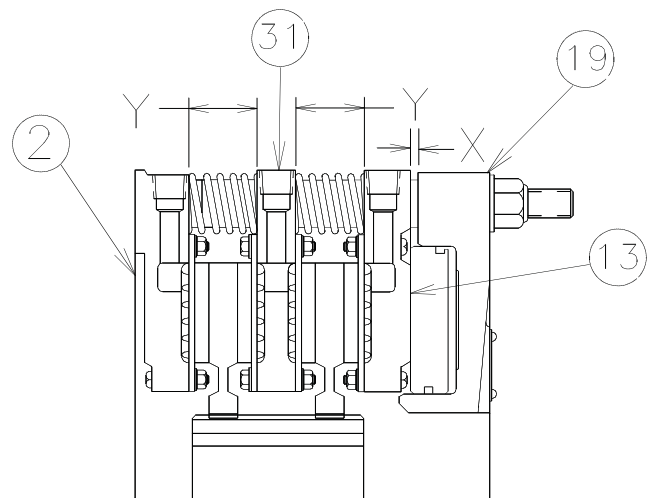

Figure 8
Measure the "Y" gap between the pressure plate (13) and the reaction plate (31), the "Y" gap between the reaction plate (31) and the mounting flange (2), and the "Z" gap between the reaction plates (31) as shown in Figures 8, 9 and 10.